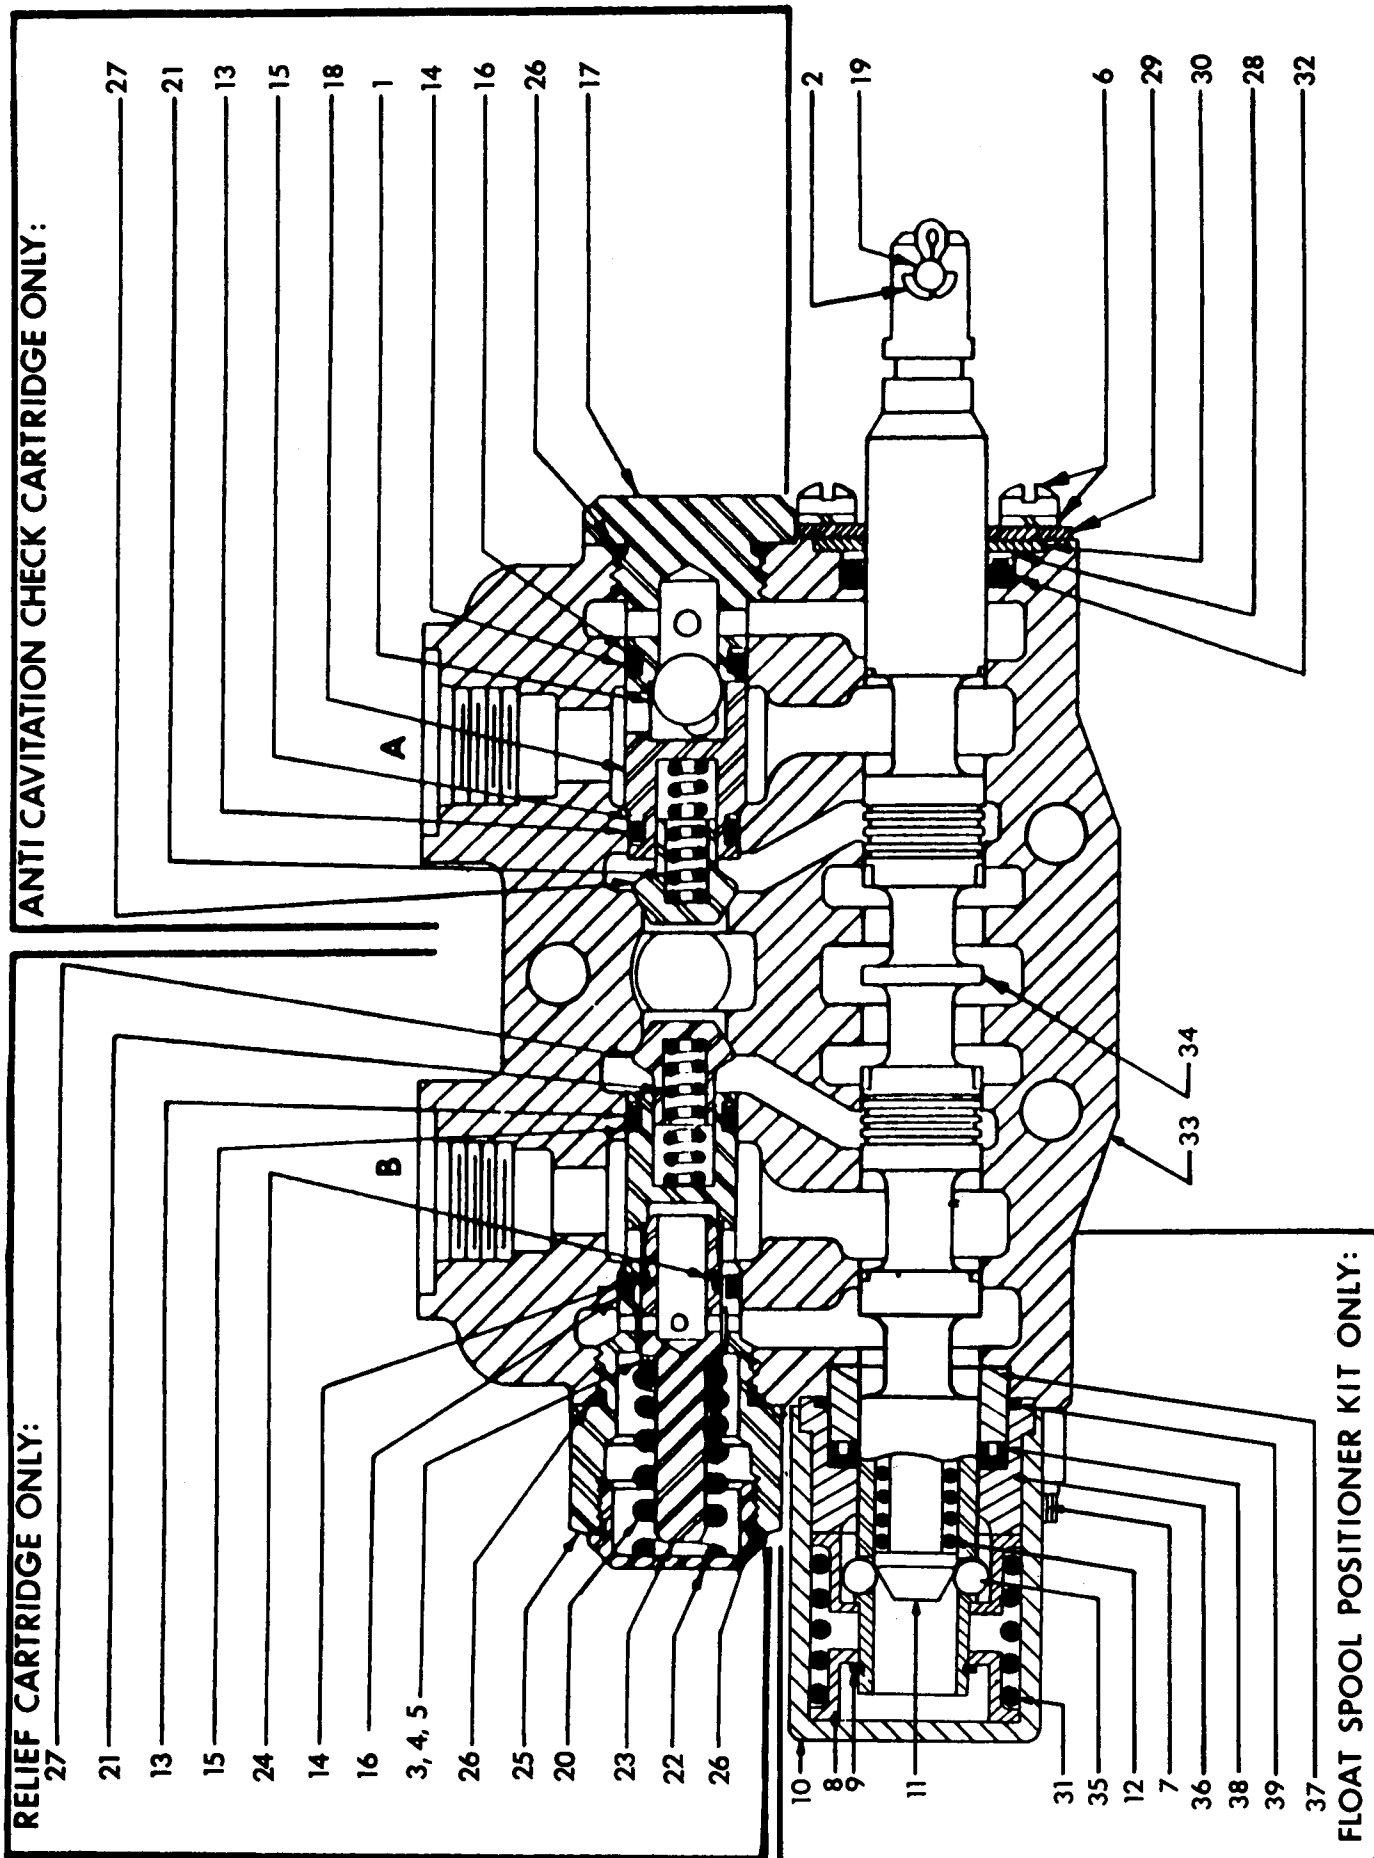

FIG 10
20. Bent spool.....replace with new spool section. See item 31 at the end and Fig 10, 11, and 12.
23. Spool not moved to full stroke.....check travel, should be 5/16 inch either way or a total of 5/8 inch. See item 31 at the end.
25. Overload relief valve in the control.....clean relief carefully but do not disturb its pressure setting as it can not be field calibrated, or replace cartridge. See item 31 at the end and Fig 10 and 11.
28. Check poppet in the control valve.....clean check poppet(s) carefully, being sure that it moves freely with good spring action and seats properly or replace. See item 31 at the end and Fig 10, 11, and 12.
29. Damaged or worn spool seals.....replace spool end seals, see item 31 at the end and Fig 10, 11, and 12.
30. Check ball in anti-cavitation check.....clean anti-cavitation valve carefully, being sure that checks move freely and seat properly, or replace cartridge. See item 31 next, and Fig 10 and 11.
PARTS LIST - FIG 10